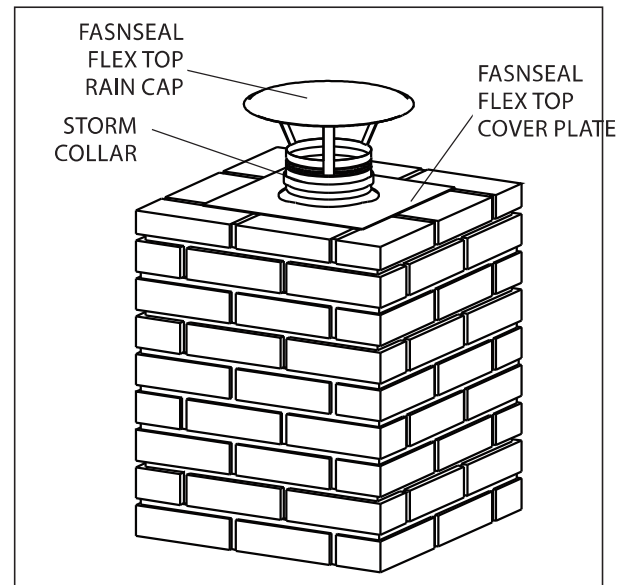

Figure 17
3. Slip the Storm Collar portion of the Rain Cap over the liner, position it over the Top Plate and tighten draw band. Reassemble Rain Cap (**Figure 17**).